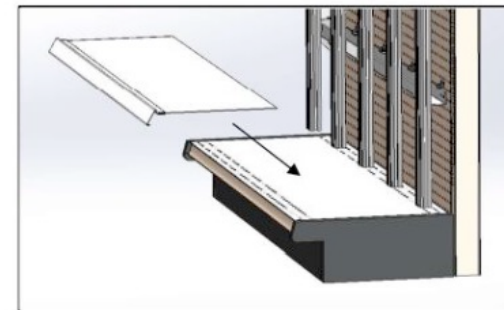

Figure 3
3. Align the Base Deck with the bottom shelf of the gondola. Ensure it is centered before setting into place (See Figure 3).